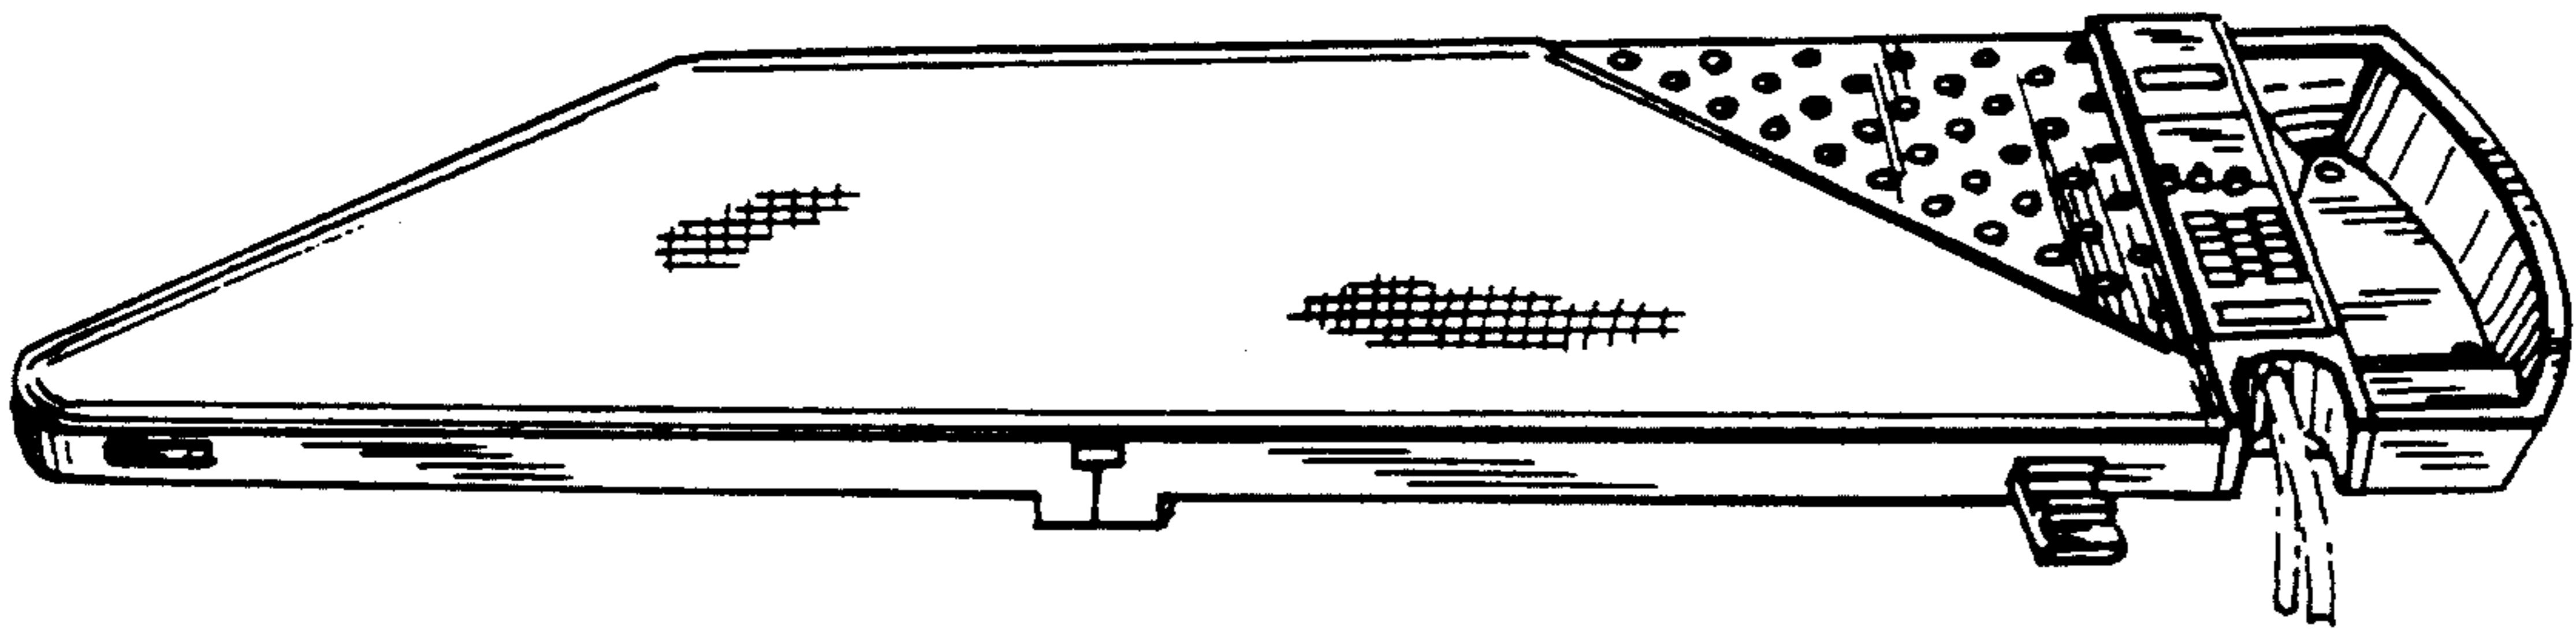
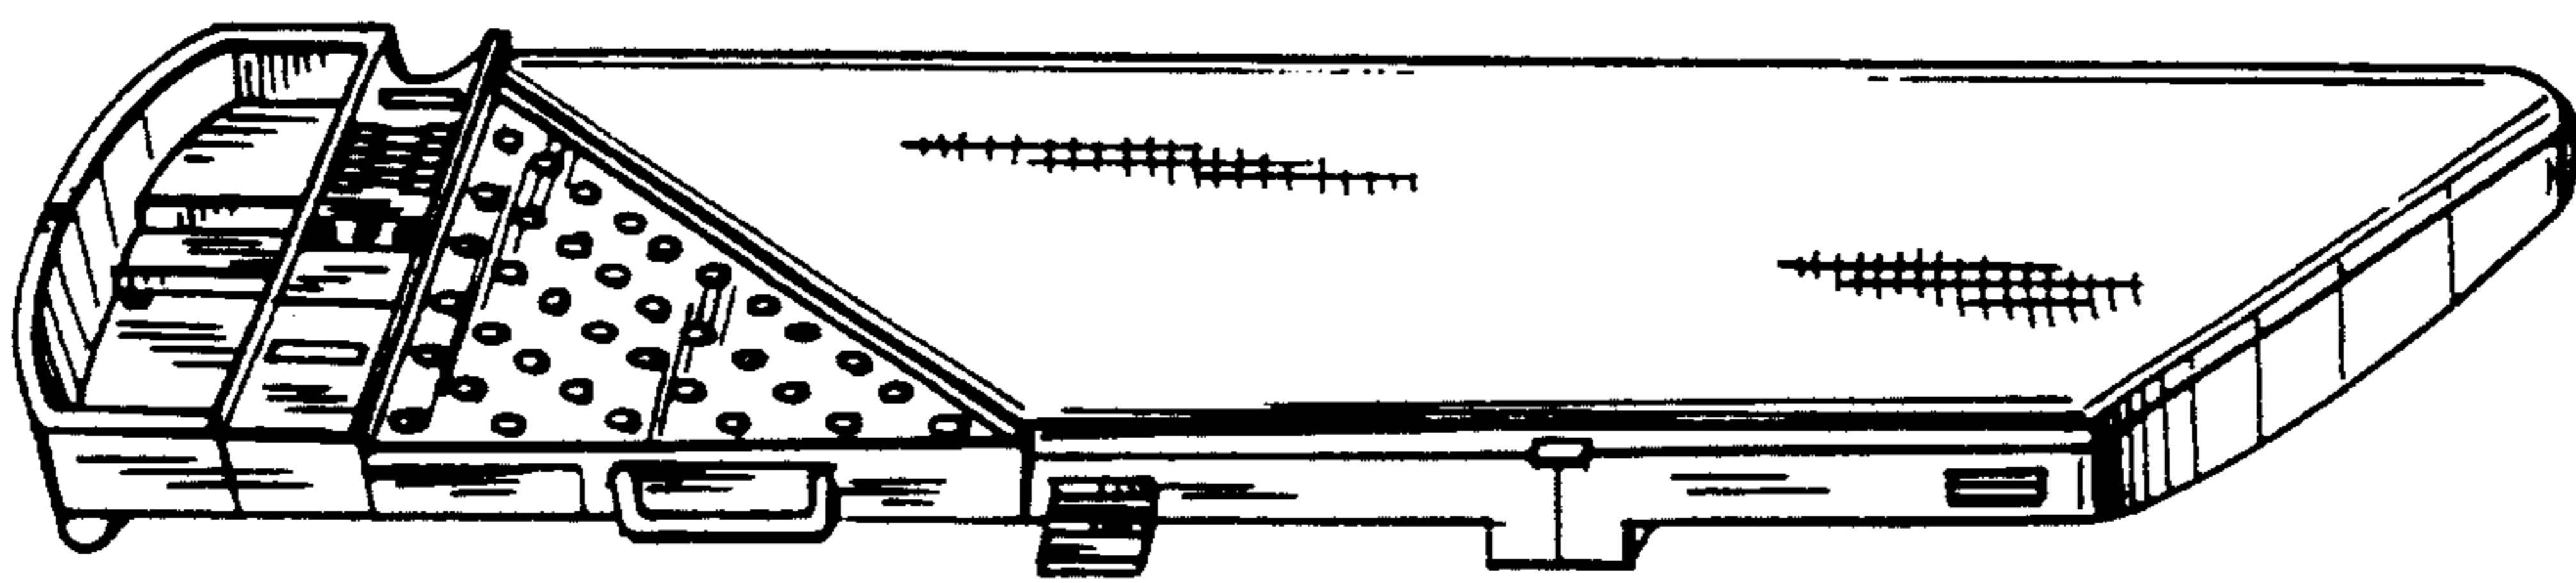

FIG. 1
FIG. 2
FIG. 1 is a perspective view of the ironing station work-place seen from left-to-right in unfolded condition; FIG. 2 shows the station of FIG. 1 seen from right-to-left; FIG. 3 shows the station of FIG. 1 in side view from the left; FIG. 4 shows the station of FIG. 2 in side view from the right; FIG. 5 is a front view pursuant to FIG. 1; FIG. 6 is a rear view pursuant to FIG. 2; FIG. 7 is a plan view of the ironing station; FIG. 8 is a bottom view thereof; FIG. 9 shows the station of FIG. 1 wherein the iron depositing platform is closed by a lid; FIG. 10 shows the ironing station of FIG. 9 with the platform lid (6) removed; and, FIG. 11 shows the ironing station with the work surface (1) in a folded-closed condition, the two portions of the working surface being held together by a latch (8). The broken line showing of an iron and fragmentary cord is for illustrative purposes only and forms no part of the claimed design. The cross lines shown on the top of the station represent conventional fabric and are understood to repeat uniformly across the top surface thereof.